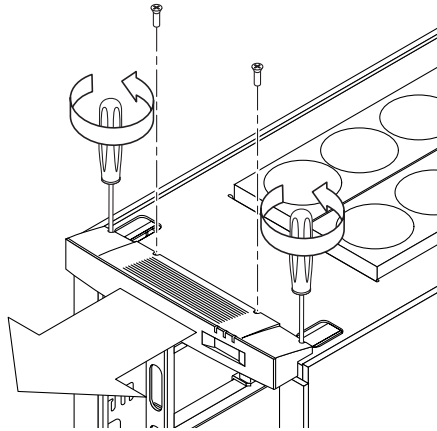

FIGURE 5-2 FrameManager Removal—Step 1
1. Loosen the screws at the back of the assembly (FIGURE 5-2).